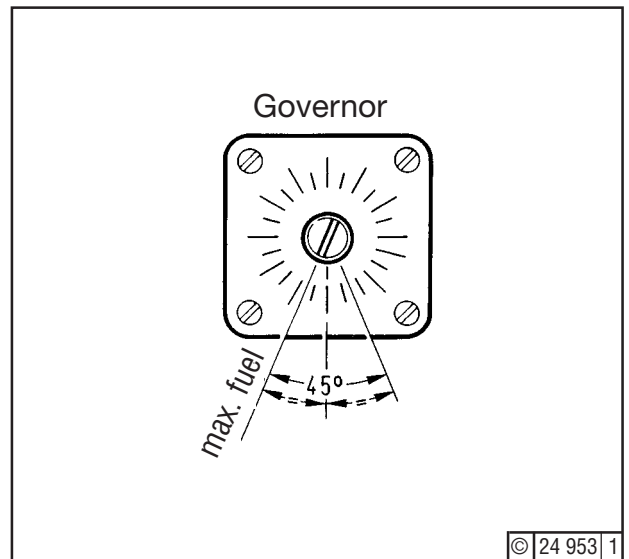

Fig. 14
10. With governing linkage removed, the actuator shaft will always be in "Stop" position. Turn shaft to maximum fuel (Fig. 14).